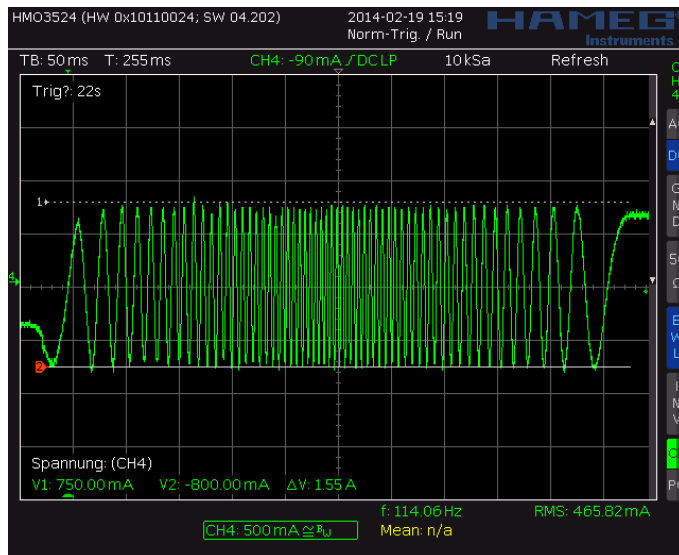
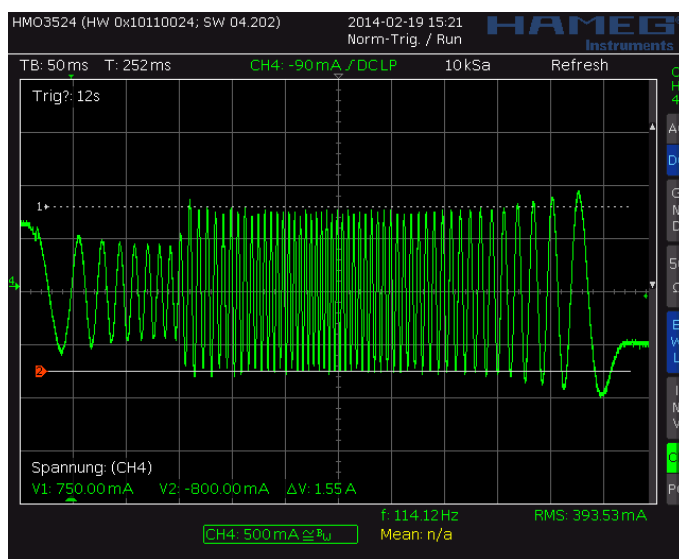
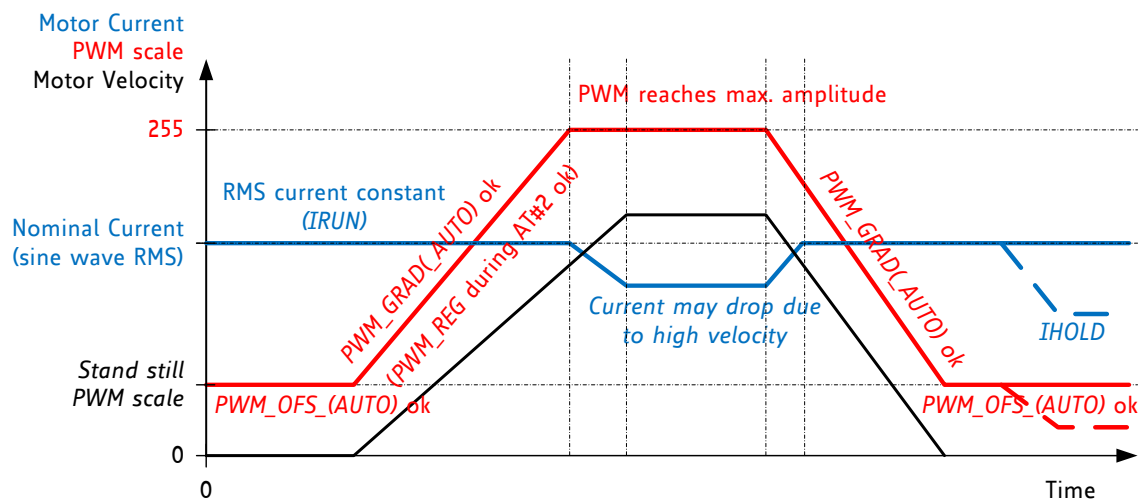

Figure 6.3 Scope shot: good setting for PWM_REG
Figure 6.4 Scope shot: too small setting for PWM_REG during AT#2
Figure 6.5 Successfully determined PWM_GRAD(AUTO) and PWM_OFS(AUTO)
In StealthChop voltage PWM mode, the autoscaling function (*pwm_autoscale* = 1, *pwm_auto_grad* = 1) regulates the motor current to the desired current setting. Automatic scaling is used as part of the automatic tuning process (AT), and for subsequent tracking of changes within the motor parameters. The driver measures the motor current during the chopper on time and uses a proportional regulator to regulate *PWM_SCALE_AUTO* in order match the motor current to the target current. *PWM_REG* is the proportionality coefficient for this regulator. Basically, the proportionality coefficient should be as small as possible in order to get a stable and soft regulation behavior, but it must be large enough to allow the driver to quickly react to changes caused by variation of the motor target current (e.g. change of VREF). During initial tuning step AT#2, *PWM_REG* also compensates for the change of motor velocity. Therefore, a high acceleration during AT#2 will require a higher setting of *PWM_REG*. With careful selection of homing velocity and acceleration, a minimum setting of the regulation gradient often is sufficient (*PWM_REG*=1). *PWM_REG* setting should be optimized for the fastest required acceleration and deceleration ramp (compare Figure 6.3 and Figure 6.4). The quality of the setting *PWM_REG* in phase AT#2 and the finished automatic tuning procedure (or non-automatic settings for *PWM_OFs* and *PWM_GRAD*) can be examined when monitoring motor current during an acceleration phase Figure 6.5.